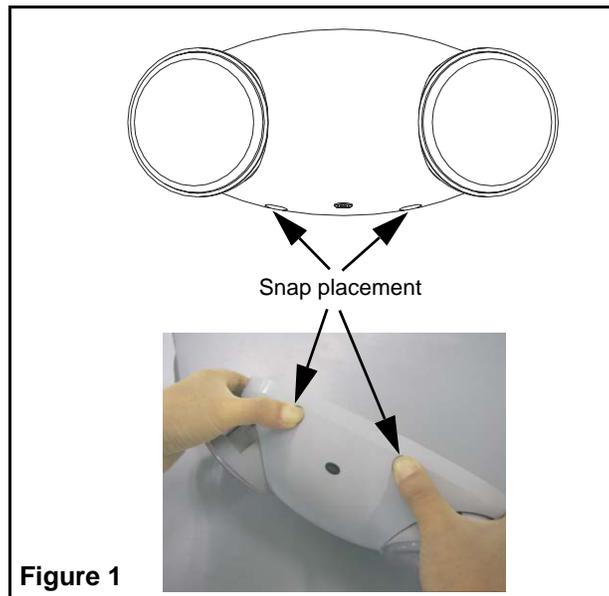

Figure 1
1. Remove the back plate by holding the unit in both hands and pressing the two snaps located on the bottom of the unit (see figure 1).